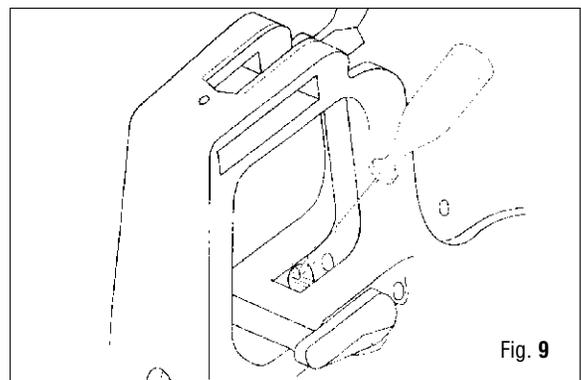
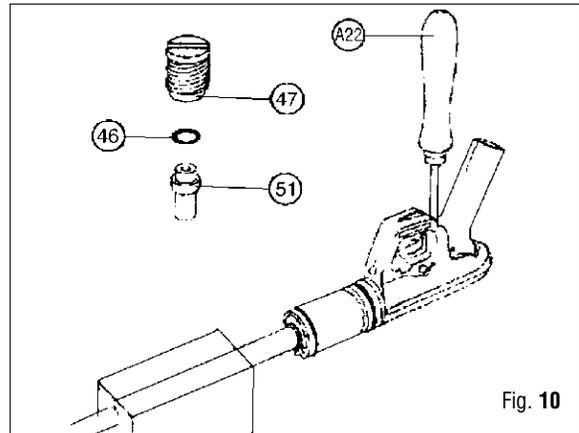

Fig. 9
Fig. 10
23. Remove the safety bar retainer (58) by depressing the latch with a small screwdriver (Fig. 9).
24. Remove safety bar (59) with o-ring (60) from handle (41).
25. Remove o-ring (60) from safety bar.
26. Remove connecting plunger (45) with special tool A-13 (Ø 1,5 mm) or needle nose pliers.
27. Remove bushing (47) with tool A-22, then remove o-ring (46) and guide bushing (51) (Fig. 10).